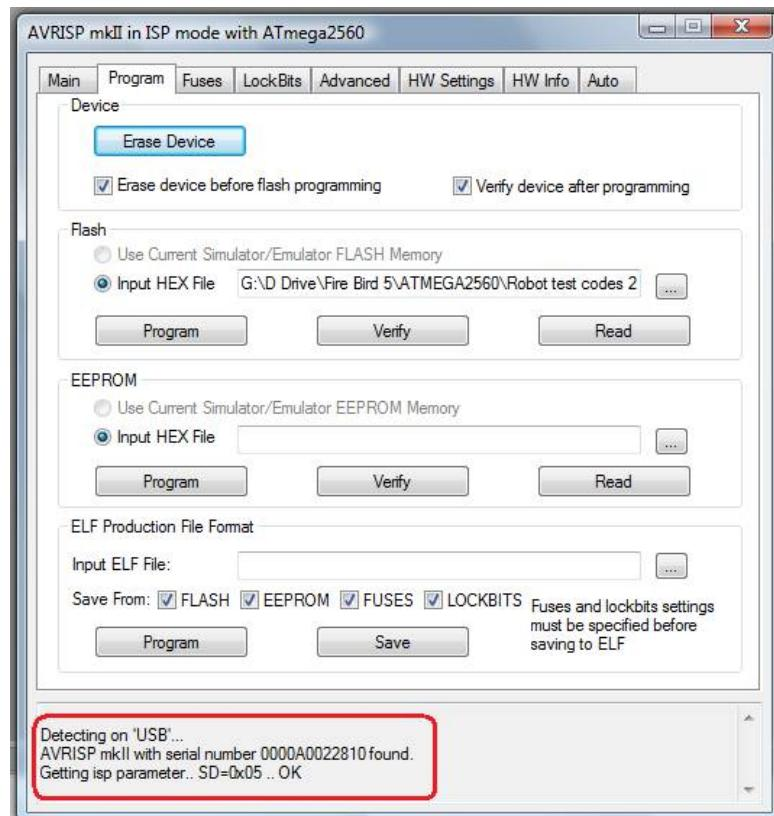

Figure 2.44
6. Window as shown in Figure 2.44 will appear.